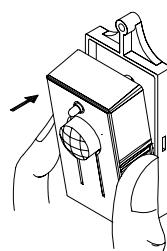

fig 5
- ③ Install the Transmitter: Hold the middle parts of Transmitter case (as fig 5). Put this case into wall cap.